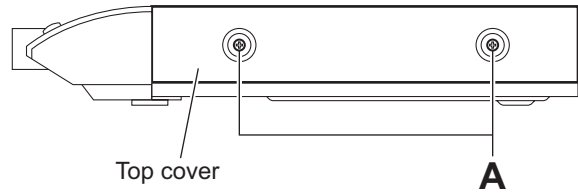

Fig.1
(See Figs.1 to 3)
- (1) From the both sides of the main body, remove the four screws **A** attaching the top cover. (See Figs.1 and 2)